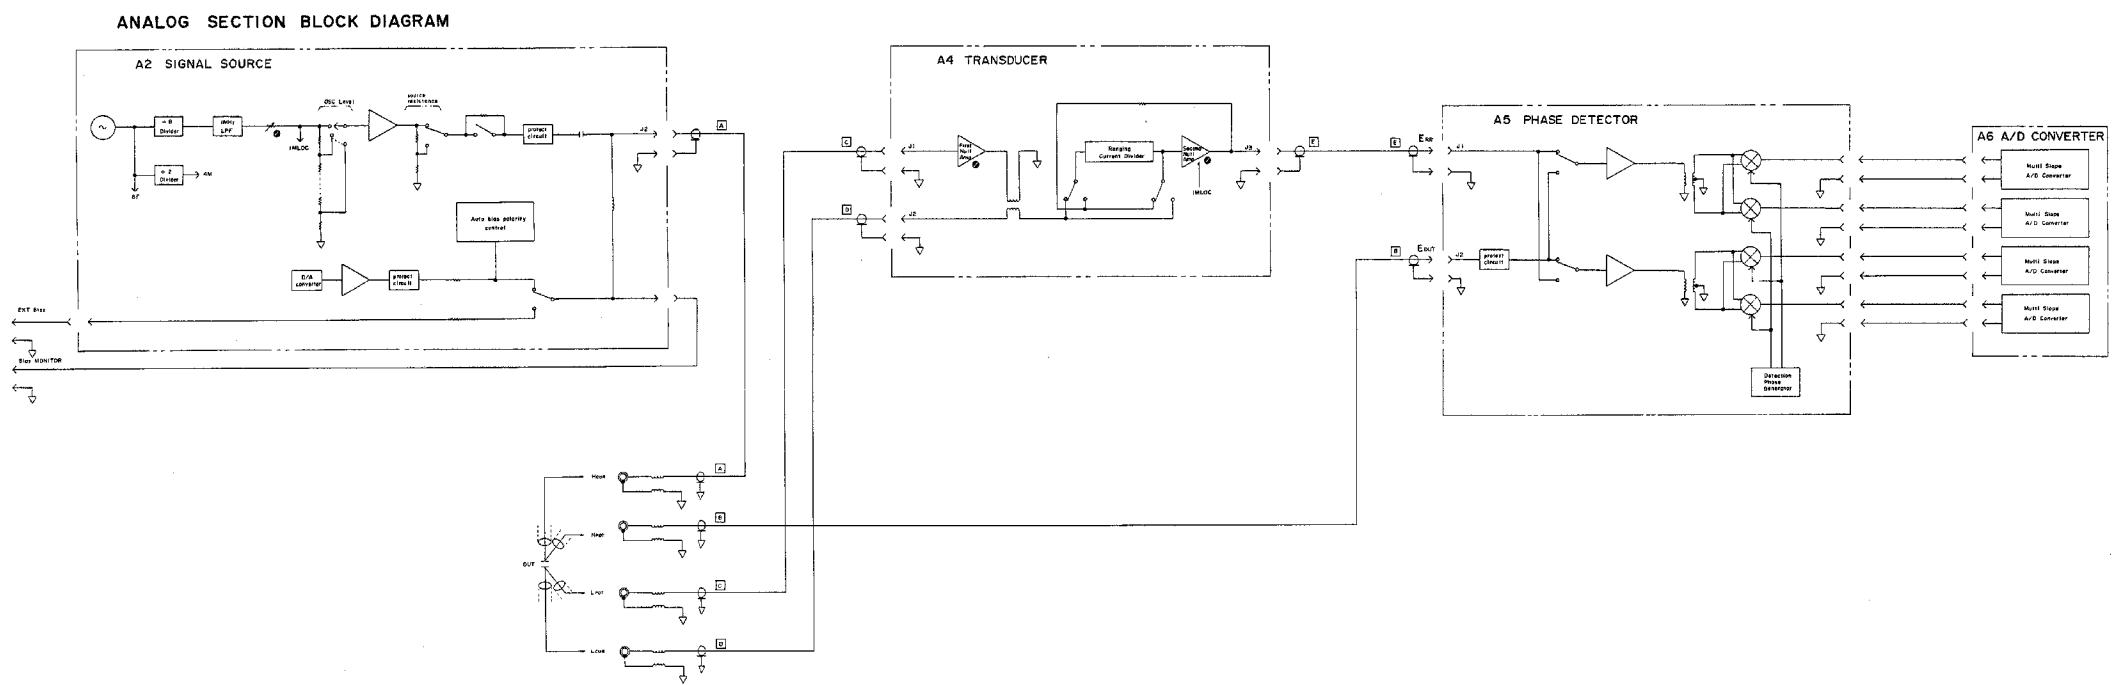

Figure 2-8. Analog Section Block Diagram
A block diagram of the 4279A analog measurement section is shown in Figure 2-8. The analog measurement section consists of three sections: (1) Signal Source, (2) Transducer, and (3) Vector Voltage Detector. An explanation for each subsection follows.